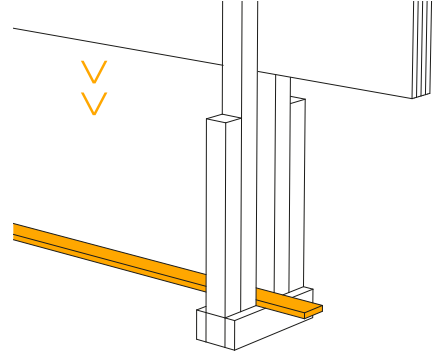
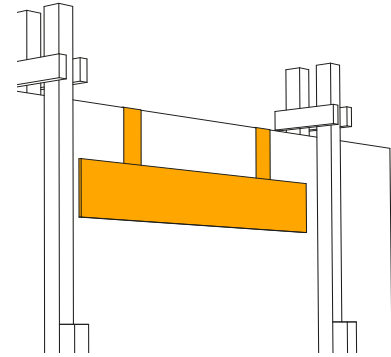

fig. 3
fig. 4
- Cardboard layer pads/wax rails positioned between each slab, to prevent any strain developing between the slabs and prevent them from knocking against each other (fig. 3);
- Protection for the outer edges (fig. 4);
It is also wise to place a wooden board over the feet of the structure on which the load is to be placed to protect the material when the bundled is lifted (fig. 3). So as not to damage the slabs during handling with chains, it is finally preferable to use 2 wooden boards to protect the surface (fig. 4).
- Shrink-wrapping (fig. 4).